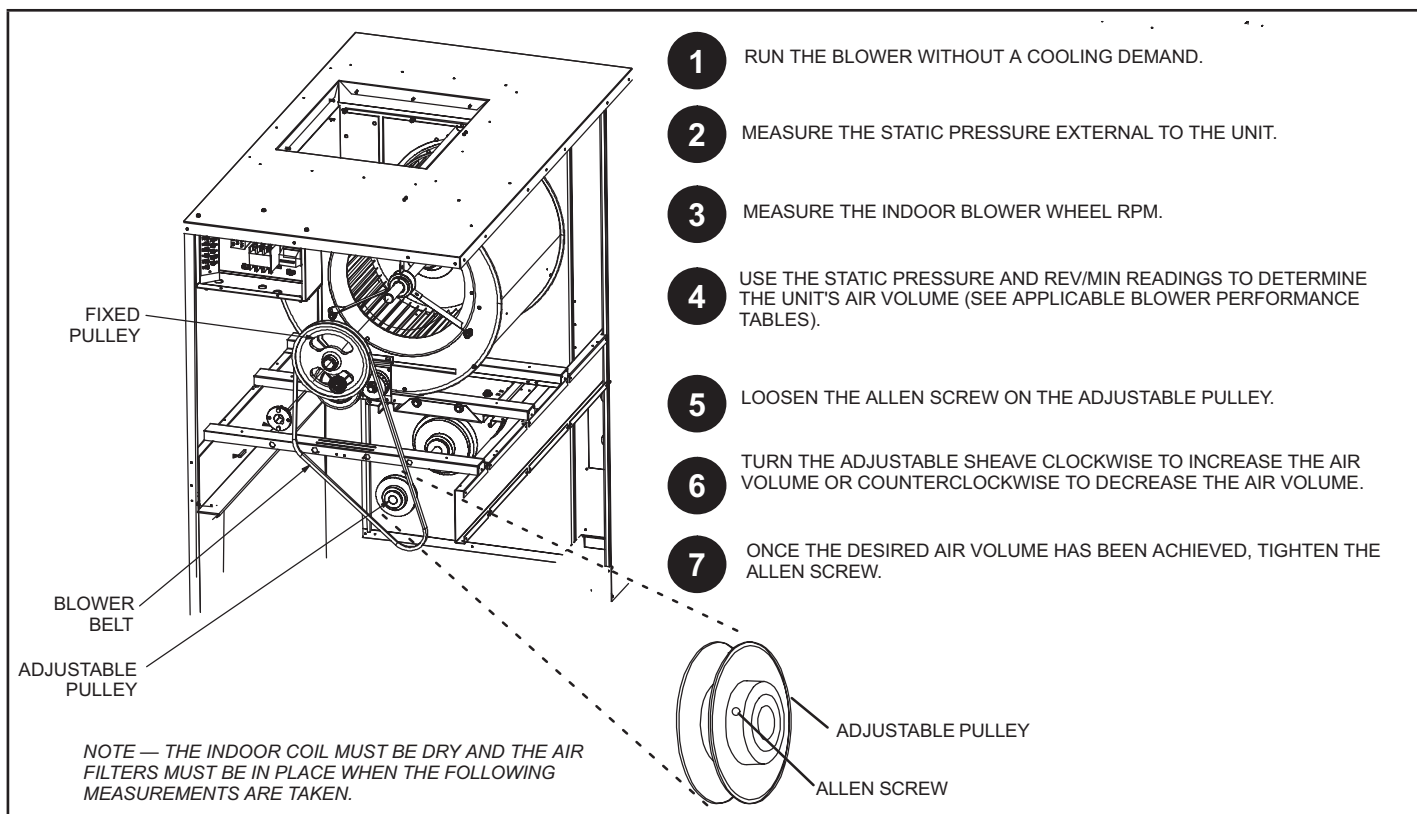

FIGURE 18. Typical Air Volume Adjustment Procedure
- 3 - Check for 24VAC signal at the thermostat blower input (G to GND terminal). See figure 18.